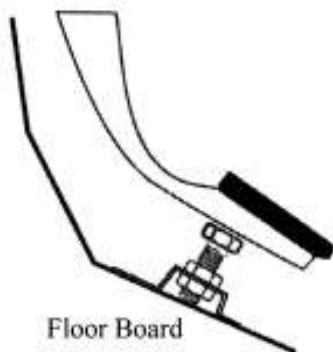

Figure 1
7. Build a pedal stop assembly. (Figure 1)